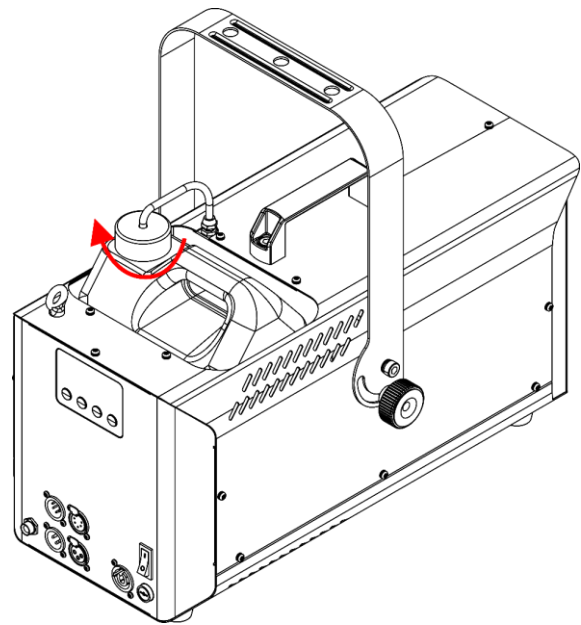

Fig. 19
- 08) Screw the lid back on the fluid tank, as shown in Fig. 19.